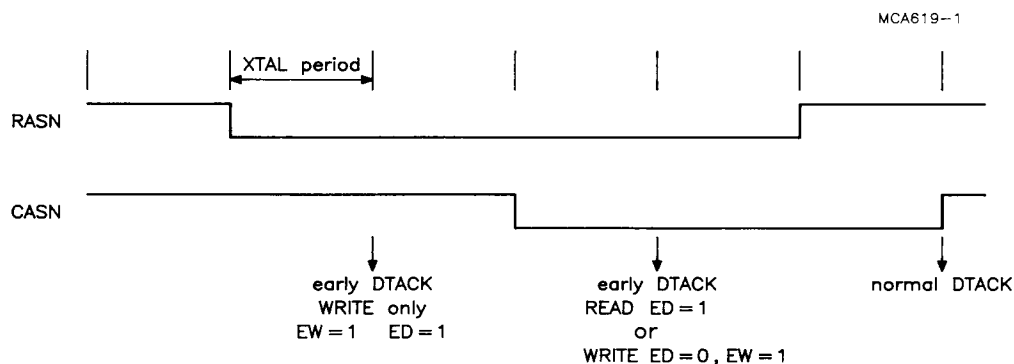

Fig.3 DTACK assertion in FAST mode timing.
- Access to DRAM is acknowledged as soon as it is certain that data is available for the CPU. DTACKN can be advanced by two clock periods using the ED bit in the CSR register. For a Write cycle DTACKN can be advanced by 2 clock periods (4 if ED is set), using the EW bit of the CSR register. See Figures 3 and 4.